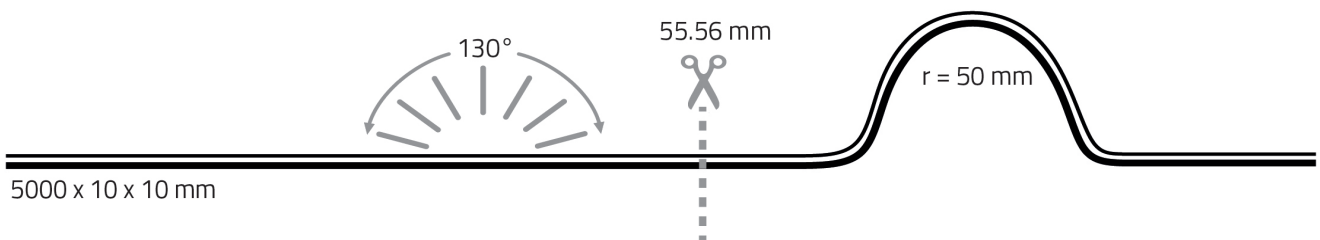

fig. 1
2. Shorten **VARDIFLEX** LED strip if necessary (fig. 1).
LED strip can be separated in each case after **fourteen (55.56 mm)** (fig. 1).